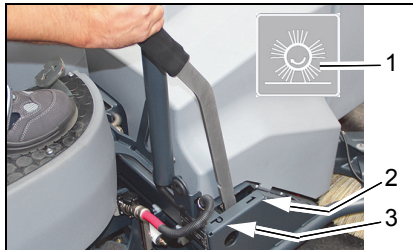

Fig. 4
1. Switch the machine on and press the *Pre-sweep suction unit* (Fig. 4/1) button on the control panel.
2. Move the lever of the pre-sweep unit from pos. P to pos. 1 (Fig. 4/2) and set off.
1. Press the *Pre-sweep suction unit* (Fig. 4/1) button on the control panel.
2. Move the lever of the pre-sweep unit from pos. 1 to pos. P (Fig. 4/3).